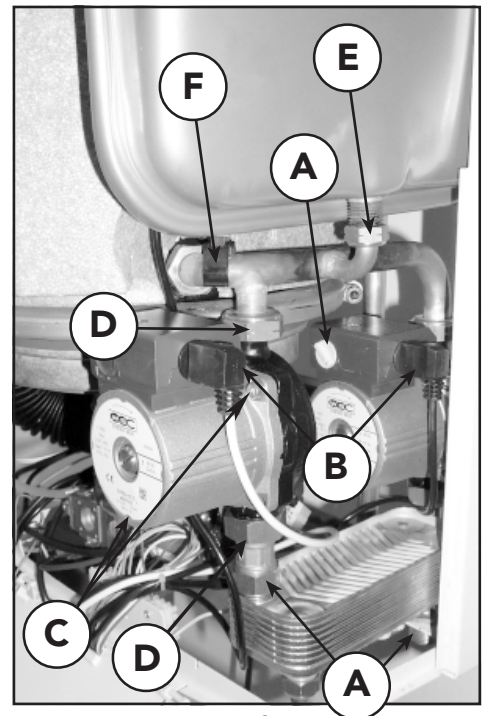

Fig. 27
- To change electrodes, unscrew the two screws to the supporting plate and remove it. Undo the brass nuts, to electrodes "B" (fig. 27). Reassemble reverse order.
Replacement of pump head (fig. 27)
Replacement of pump body (fig. 27)
Expansion Vessel (fig. 27)
D.H.W. temperature sensor (fig. 27)